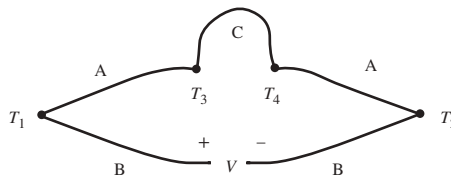

Figure 9.36 Law of intermediate leadwire metals.
2. *Law of intermediate leadwire metals.* As illustrated in Figure 9.36, a third metal C introduced in the circuit constituting the thermocouple has no influence on the resulting voltage as long as the temperatures of the two new junctions (A-C and C-A) are the same ($T_3 = T_4$). As a consequence of this law, a voltage measurement device that creates two new junctions can be inserted into the thermocouple circuit without altering the resulting voltage.